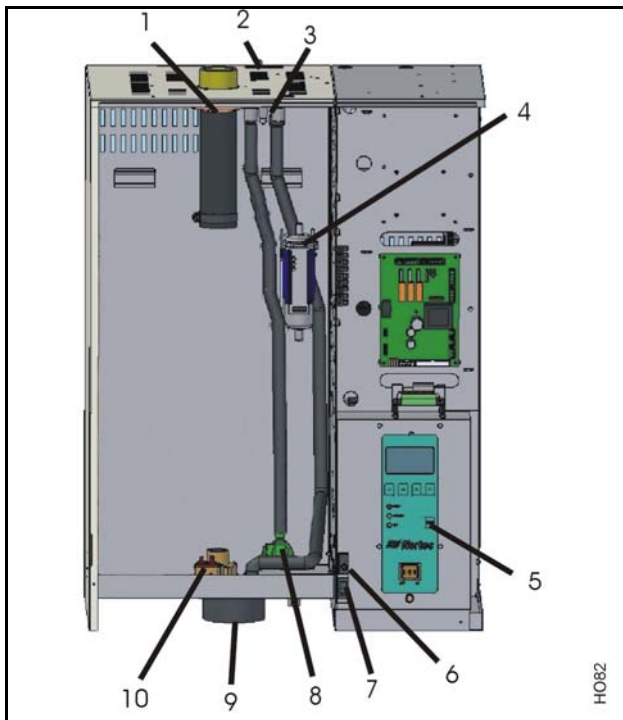

Figure 1. NHTC Components (Front View)
(1) Refer to Figures 1 and 2 when reading Table 1.